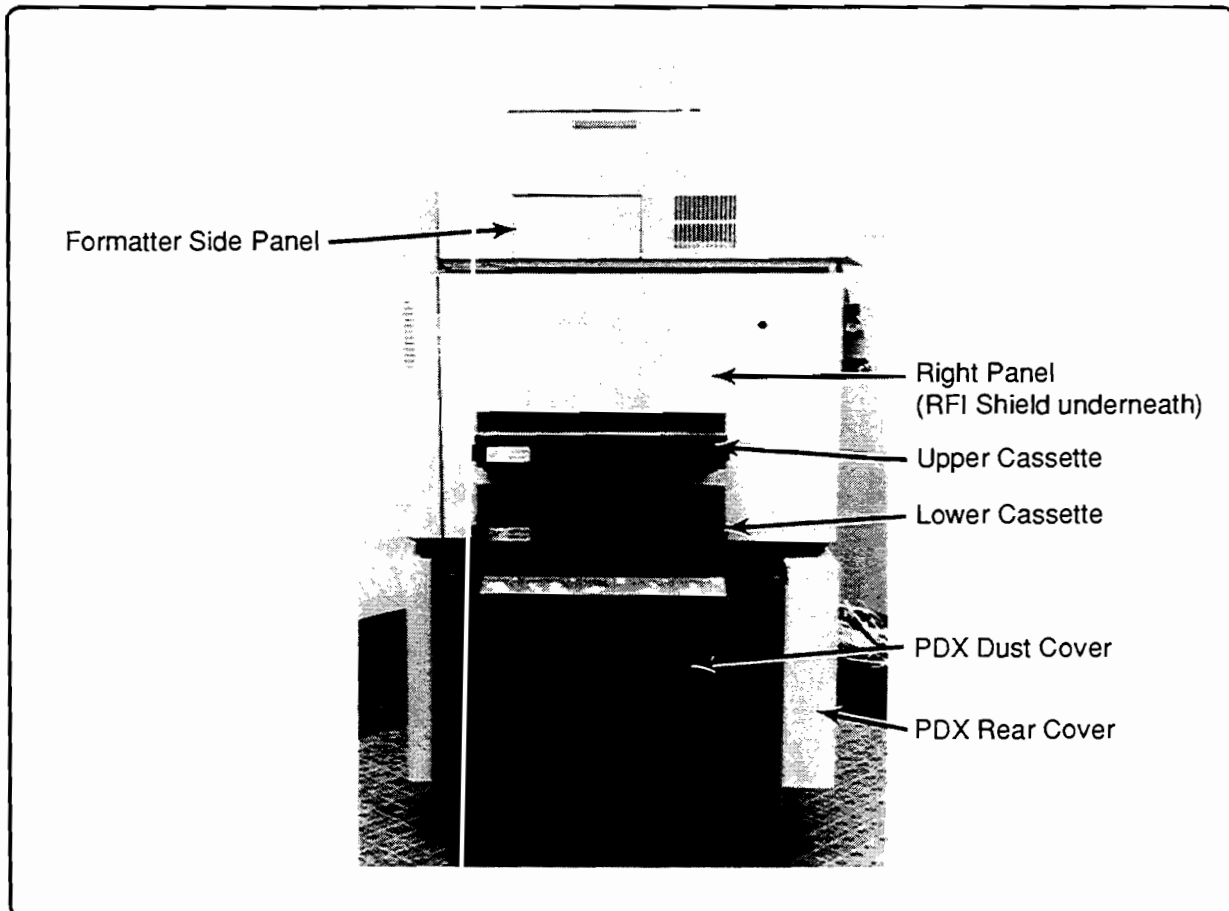

Figure 4-2. Right Side Covers
1. Open Formatter side panel (see Figure 4-2). Set DIP Switch 2 on SW 12 to closed position and cycle power to enable CE mode.
- c. PDX Dust Cover (if "P" or "D" model, Figure 4-2).
- d. PDX Rear Cover (containing clutches and PD/DU PCAs, Figure 4-2).
- e. Upper and Lower Cassette Trays (Figure 4-2).
- f. Right Panel (containing DC Controller PCA, Figure 4-2).